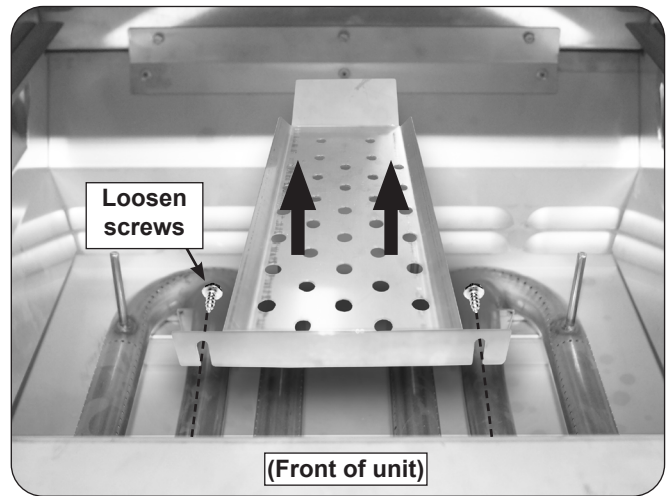

Fig. 47-1 Heat distribution grid removal
3. Loosen the two $\frac{5}{16}$ " hex screws and remove the heat distribution grid by lifting up, then outward, freeing the cutouts from the two loosened screws (see Fig. 47-1).